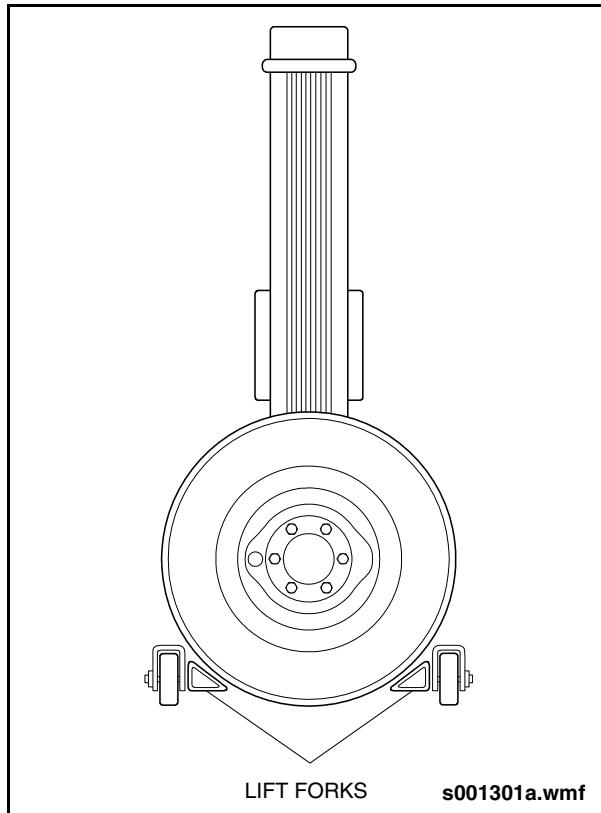
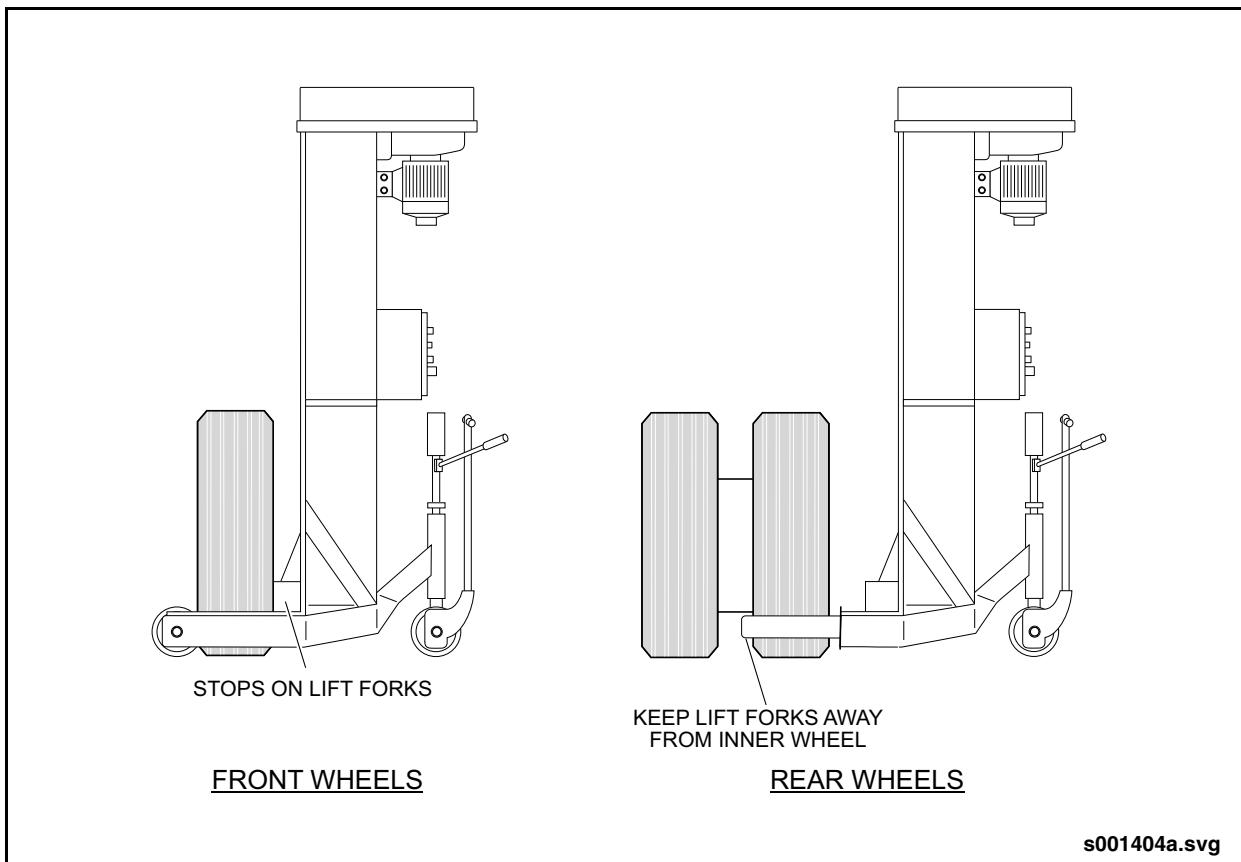

Fig. GI-16: Typical Wheel Lifts
Fig. GI-17: Wheel Placement in Hoist
1. Position wheel lift, centering each tire exactly between the lift forks. Make sure each tire is tightened up against the stop. See "Fig. GI-16: Typical Wheel Lifts" on page 39. See "Fig. GI-17: Wheel Placement in Hoist" on page 40.